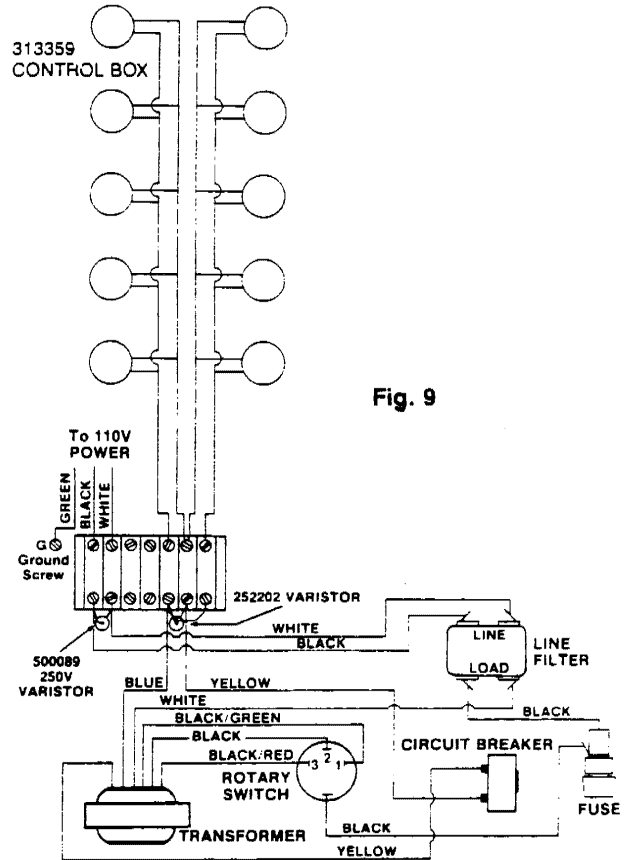

Fig. 9
3. Mount a 24V power supply in a clean and dry location, preferably in a utility room. (A 313370 power supply is shown in Fig. 9.) Run 110V from electrical supply to L1, N and G in power supply, preferably in conduit. (Fig. 9)
4. Run one (1) wire from 24-1 and Common to one side of the parlor, and 24-2 and Common to the other side of the parlor.